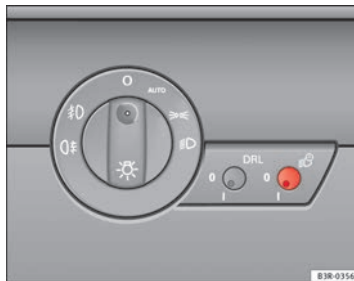

Fig. 86 Detailed view of the dash panel: Coming home and leaving home functions
- Briefly press the knob ⇒ Fig. 86 to release it from its set position.